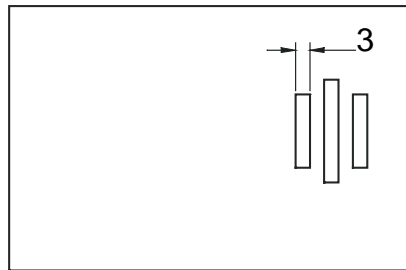
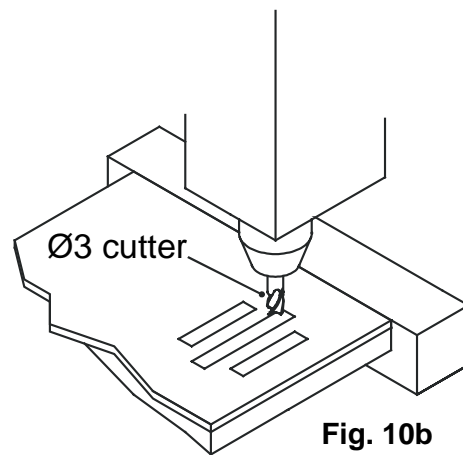

Fig. 10a
Fig. 10b
- (c) Fig. 10a shows the design for panel cut-outs to allow sound from a speaker to be heard. The panel is shown in Fig. 10b in a CNC milling machine.